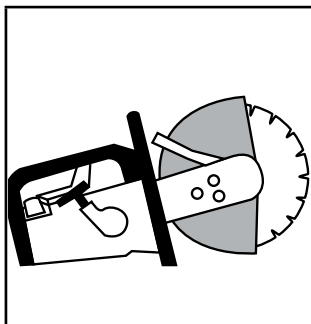

Figure 23. Cut-off saw
- **Power Saws (Diamond Blade or Abrasive Blade).** (Figure 23) They are very fast and provide precision cutting and excellent mobility. However, they are very dusty. They are normally gas powered, with engines similar to those used for chain saws.